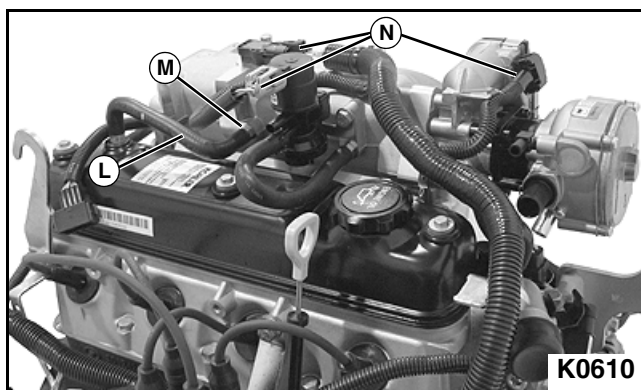

Figure 3-75
7. Connect PCV hose (L) to intake manifold port (M). **See Figure 3-75.**
8. Connect three electrical connectors (N) to intake manifold sensors.